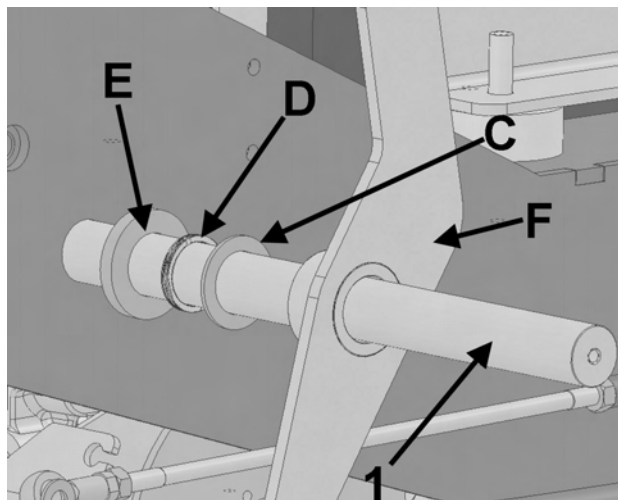

Figure 3
2. Insert the longer cylinder shaft **1** through the PTO Lever **F**. Install the 1.015 X 1.5 x 14GA washer **C**, the wave spring **D**, and the 1-1/32 x 1-3/4 x 1/4 washer **E** removed in Step 1 between the PTO lever and the front frame. . Slide cylinder shaft through the front frame. **(Figure 3)**